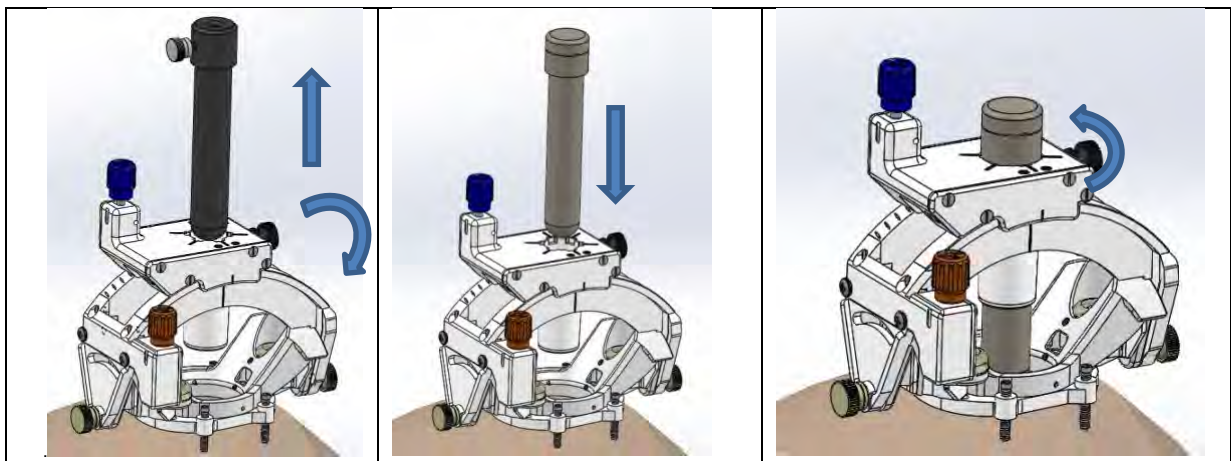

Figure 17: Removing the Probe Adapter (Left), Inserting the Targeting Stem (Middle), and Locking the Targeting Stem in the Tower (Right)
- Remove the Probe Adapter from the Tower by loosening the Tower side thumb screw and pulling the Probe Adapter out of the Tower. **See Figure 17 (Left).**
- Remove the Targeting Stem from the packaging tray and insert it into the SMARTFrame Array tower until it bottoms out. Then, tighten the Tower side thumb screw to secure the Targeting Stem in the Tower. **See Figure 17 (Middle) and (Right).**